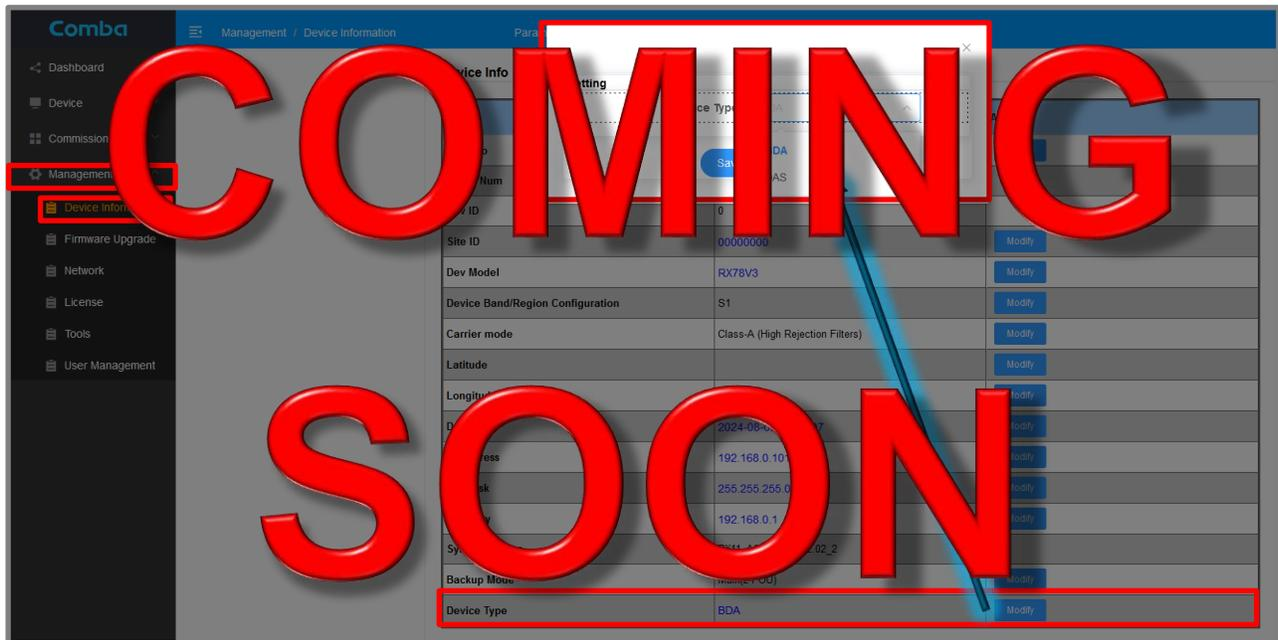

Figure 93: V3 BDA/MU Changing Device Operating Mode/Type (BDA or DAS)
- To change the Device Type, navigate to <Management – Device Information – Device Type> and click <Modify>. After making the change, you will be logged out of the web GUI, and the new selected mode will be displayed after re-login. Note, upgrading the firmware will NOT change this setting. See Figure 93.